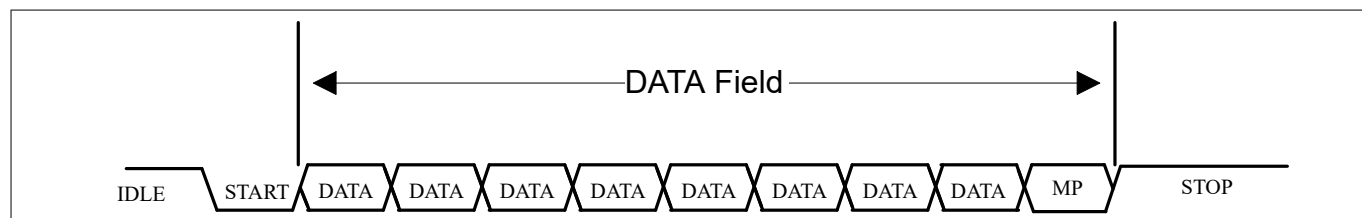

Figure 180 **UART MP address and data frame**
- Using 9-bit data field, with the ninth bit as address/data flag (MP bit). When set high, it indicates an address byte; when set low it indicates a data byte. A data frame is illustrated in Figure 180